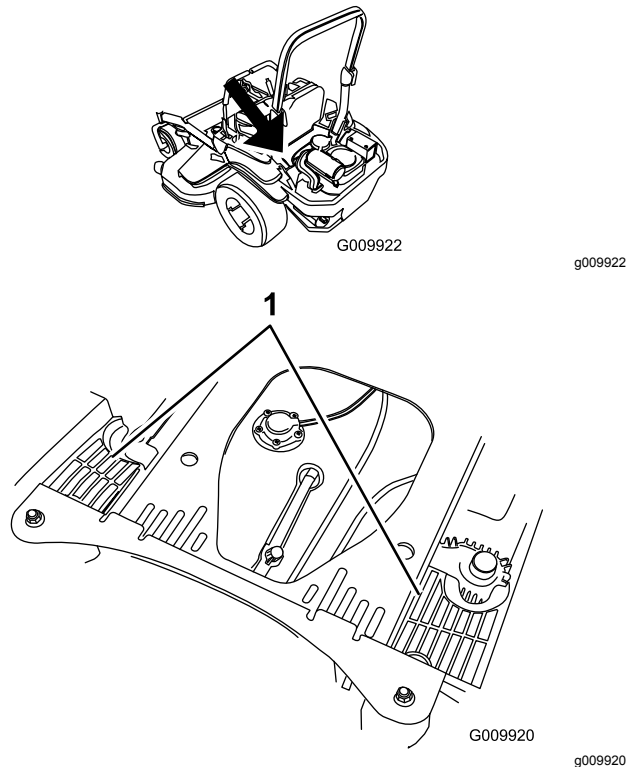

Figure 76
4. Clean the debris and grass from the hydraulic-unit shrouds (Figure 76).